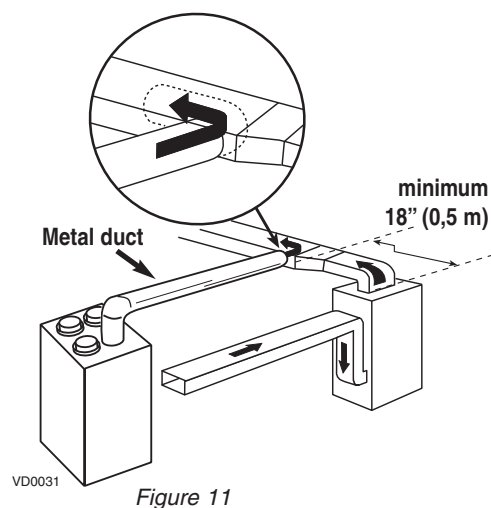

Figure 11
- Connect this opening to the fresh air distribution port of the HRV (use metal duct, see Figure 11).